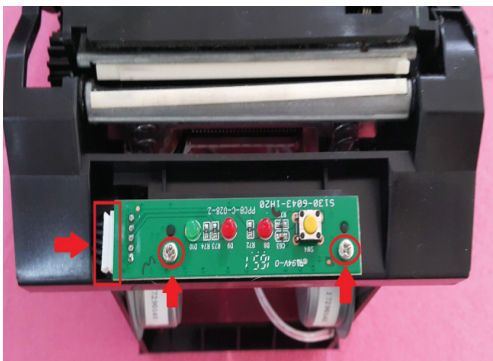

Fig 16
- 1) After Remove body cover, unscrew two screw and connection on Panell board. Ref Fig 16